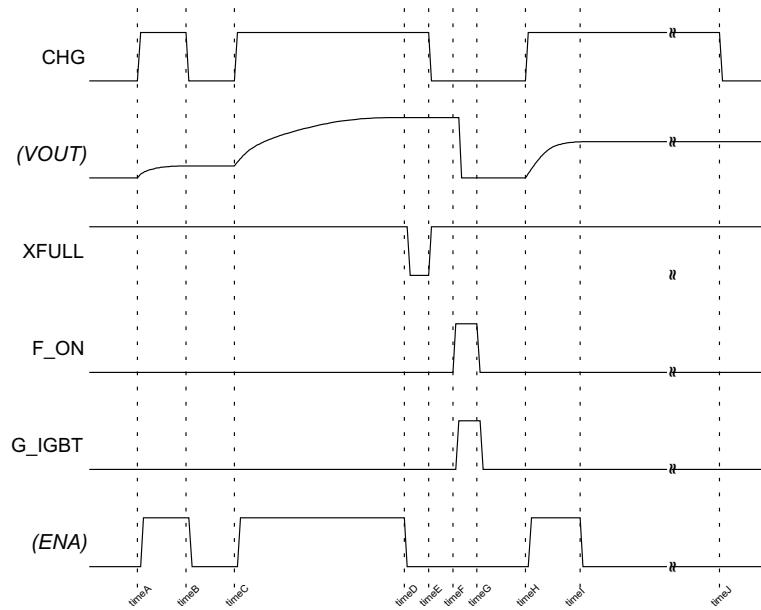

Figure 4. Whole Operation Sequence Chart
TPS65562 has one internal enable latch, F1, that holds the charge enable (ON/OFF status) of the device (see Figure 4).
The only way to start charging is to input CHG↑ (see time A/C/H in Figure 4). Each time CHG↑ is applied, the TPS65562 starts charging.
1. Forced stop by inputting CHG = L from the controller (see timeB in Figure 4).
2. Automatic stop by detecting a full charge. VOUT reaches the target value (see TimeD in Figure 4).
3. Protected stop by detecting an overcurrent function (OVDS) trigger at SW pin (see Timel in Figure 4).
The TPS65562 provides an over voltage monitor function of the SW pin. The TPS65562 is latched off if the voltage on the SW pin is above OVDS during the switch ON time (see Figure 4 and its descriptions).